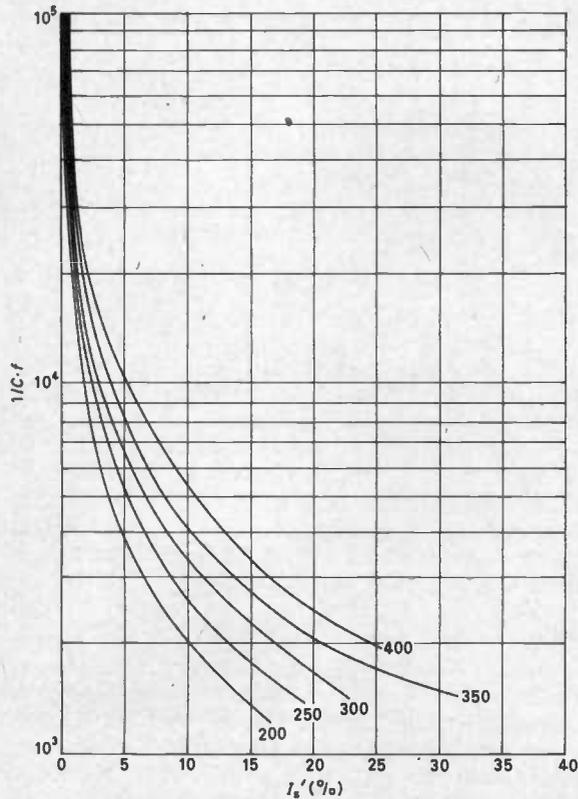

Fig. 15. Characteristic curve between deviation rate of I_s and drive frequency (parameter: V_{max})
in Fig. 14 with parameter of $C (= C_s + C'$ in pF). It is seen from the figure that the intervals between their curves are expressed by the ratios of the parameters (indicated by " \longleftrightarrow "), further it means that T in equation (11) is indeed the ratio of actual time to capacitance. Fig. 15 shows the observed relation between the frequency of V' (normalized to T) and the deviation rate $I_s' (= [(I_{s0} - I_s)/(I_{s0} - I_{min})] \times 100)$,